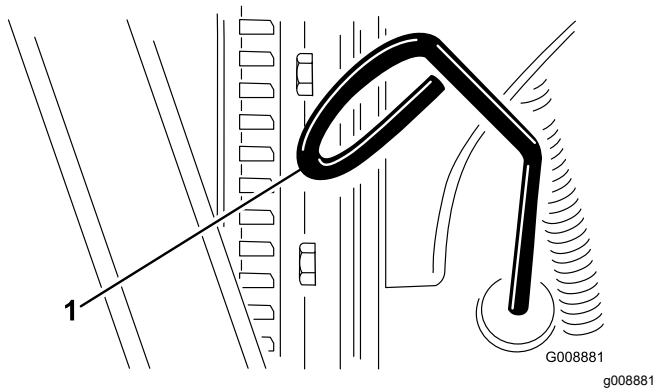

Figure 72
3. Remove the dipstick (Figure 72) and wipe it with a clean rag.